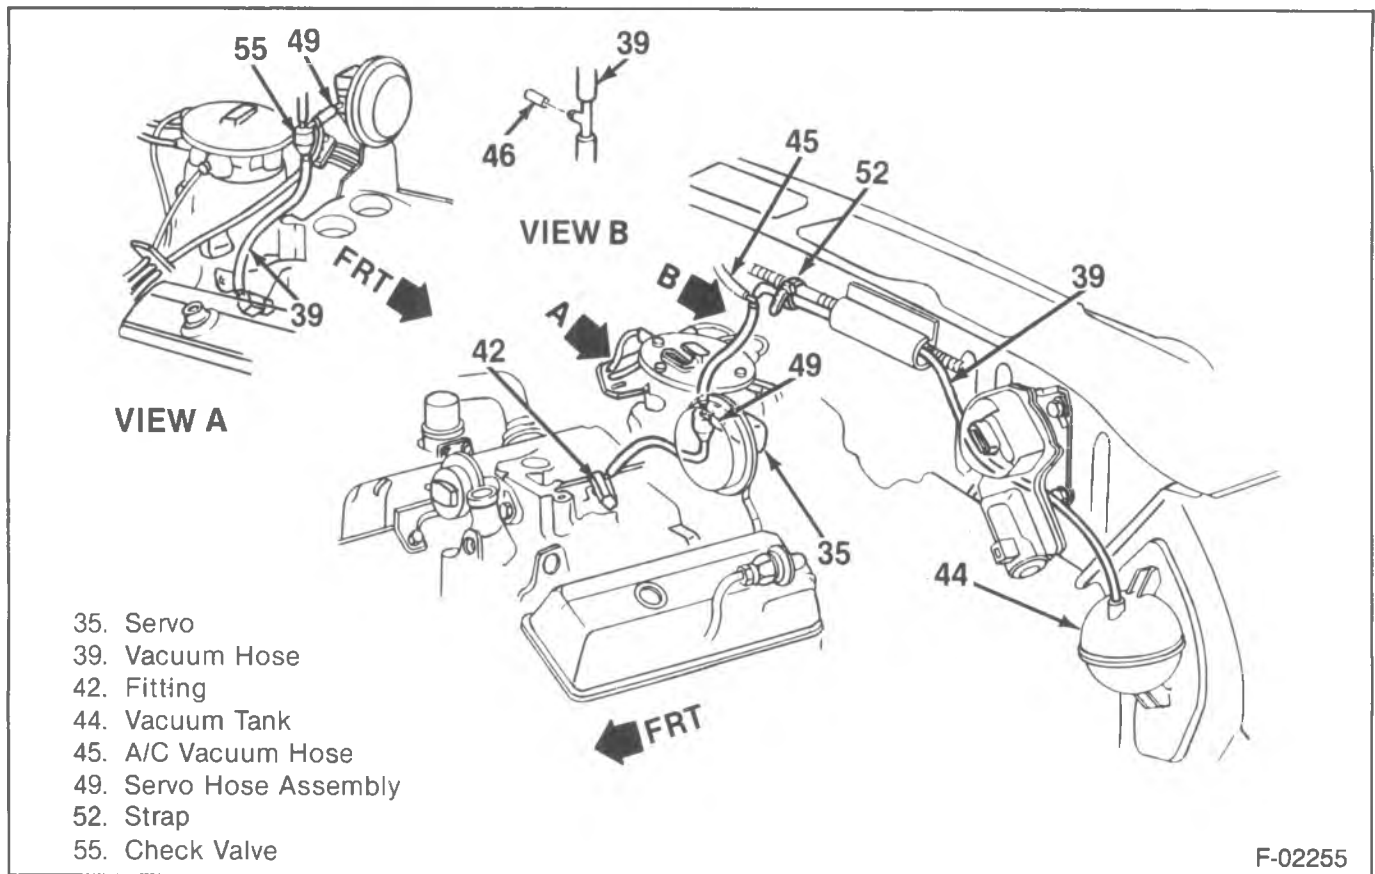

Figure 17—Vacuum Hose Routing (RV-Truck V6)
5. Retainer (34).
6. Vacuum hoses (39) and hose assembly (49). Refer to figures 17 through 20 for hose routings.